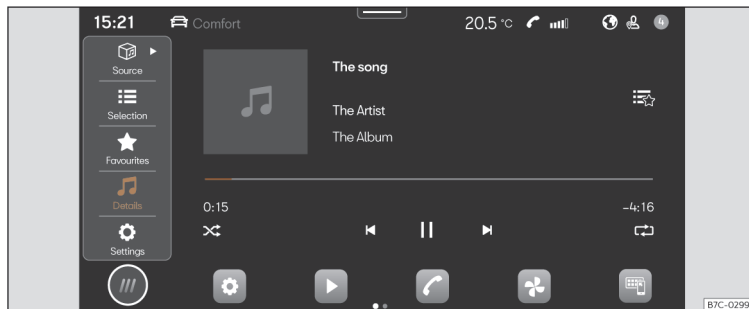

Fig. 128 Schematic representation: Multimedia view
- Press **HOME** > ► >>> **Fig. 128**.